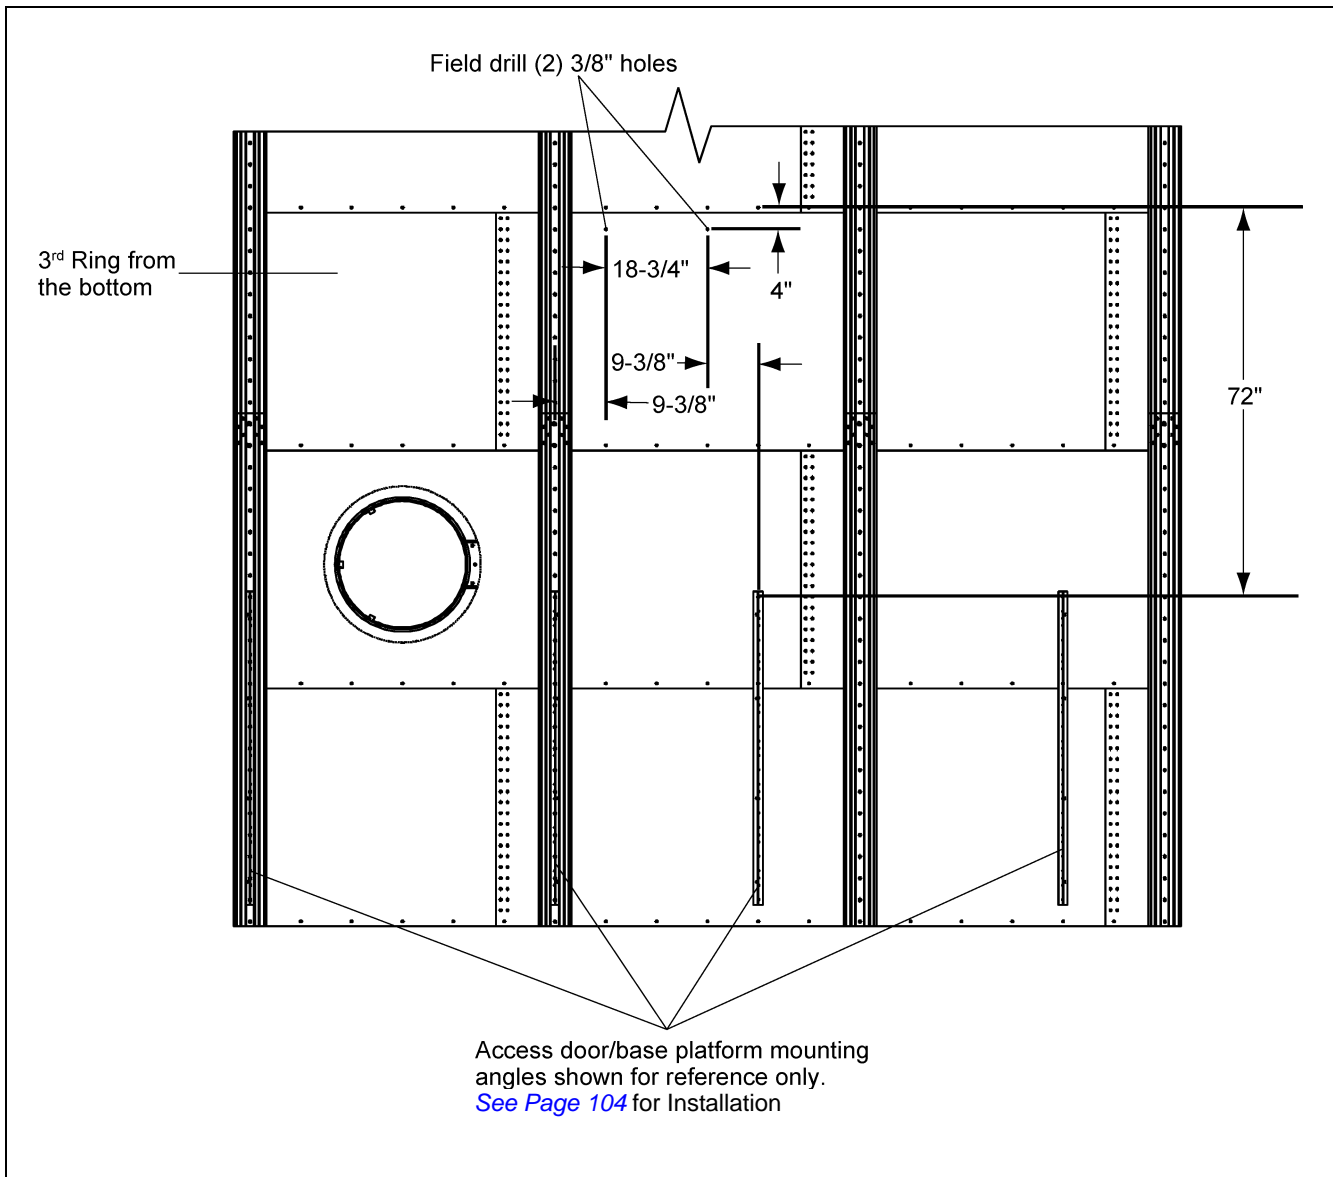

Figure 8S
Before the starter brackets can be installed, two (2)  $\frac{3}{8}$ " holes must be drilled. The holes must be located 4" below and directly in line with the top horizontal seam holes located in the 3rd ring from the bottom of the tank. The first hole, required for the right-hand starter bracket, must be located  $9\frac{3}{8}$ " from the center of the left-hand base platform mounting angle to the center of the hole. The second hole, required for the left-hand bracket, must be located  $18\frac{3}{4}$ " from the center of the first hole. When located correctly, the holes will be centered between the two (2) sets of mounting angles. *Refer to Figure 8S* for the proper location of the two (2)  $\frac{3}{8}$ " field drilled holes required to install the starter brackets.